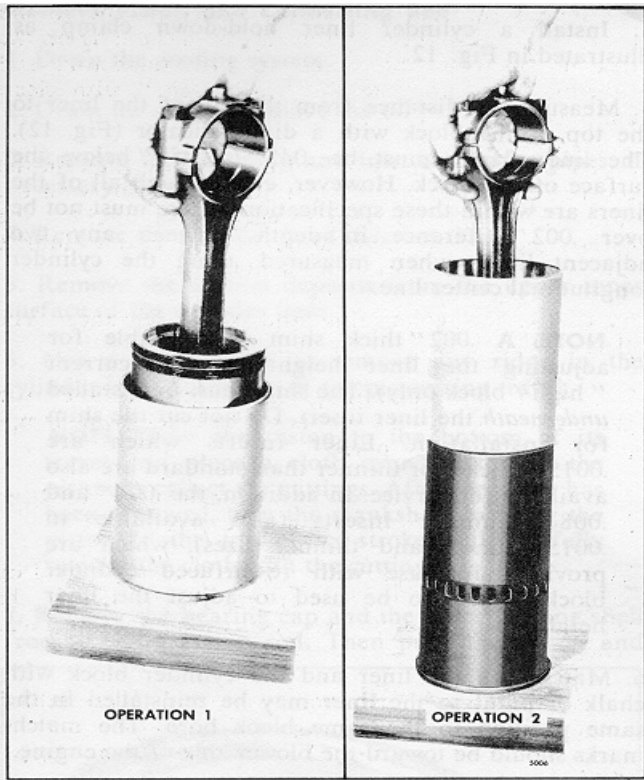

Fig. 13 - Installing Piston and Connecting Rod Assembly in Ring Compressor and Cylinder Liner
compressor. Then push the piston down until it contacts the wood block (Operation 1 of Fig. 13).
6. Place the ring compressor and the piston and connecting rod assembly on the liner so the numbers on the rod and cap are aligned with the matchmark on the liner (Operation 2 of Fig. 13).